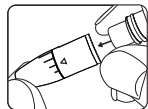

Figure 22
STEP 1: Remove the cap of the lancing device by twisting it off. See Figure 22.